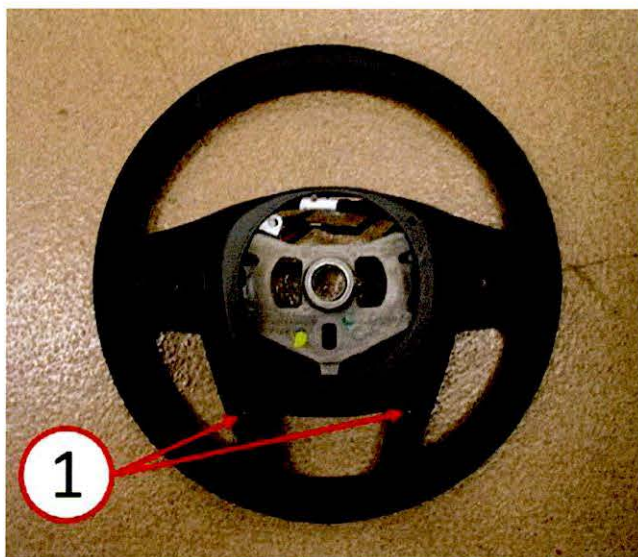

**Fig. 4 Bezel Installation**
7. Slip the uncut cable tie (1) onto the upper fastener leg of the left bezel. Connect the electrical connector to the switch. Then install the left bezel (2) to the steering wheel (Fig. 4).
8. Install a new cable tie (3) securing the wire harness to the right bezel. Connect the electrical connector to the switch. Then install the right bezel (4) to the steering wheel (Fig. 4).
9. Install the four screws (5) securing the bezels to the steering wheel (Fig. 4). Tighten the screws to 5.42 Nm (48 in. lbs.).